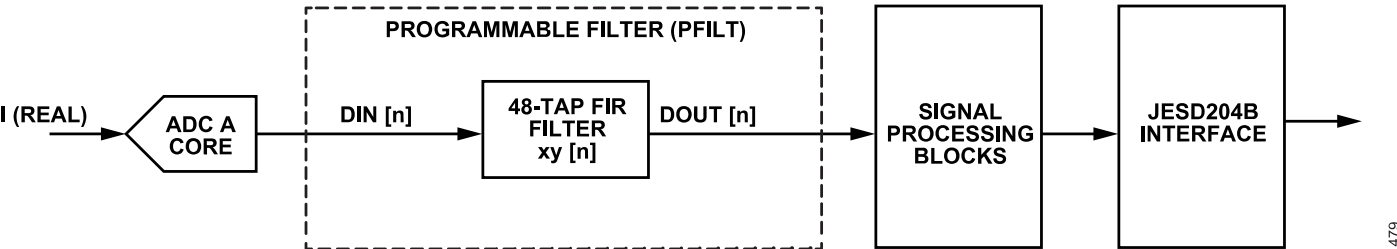

Figure 78. Real 48-Tap Filter Configuration
- ▶ Real 48-tap filter (see Figure 78)